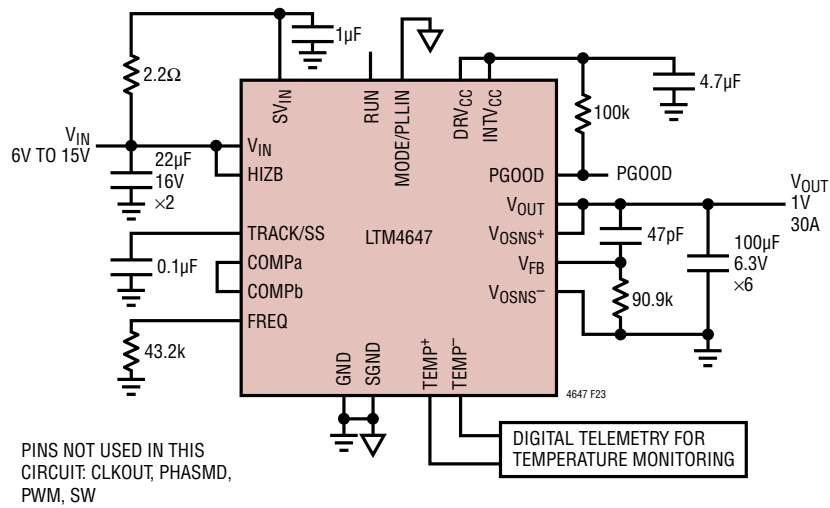

Figure 23. Typical 6V to 15V Input 1.0V at 30A Output Design
**Table 5. Output Voltage Response vs Component Matrix (Refer to Figure 23) 0A to 7A Load Step Typical Measured Values**